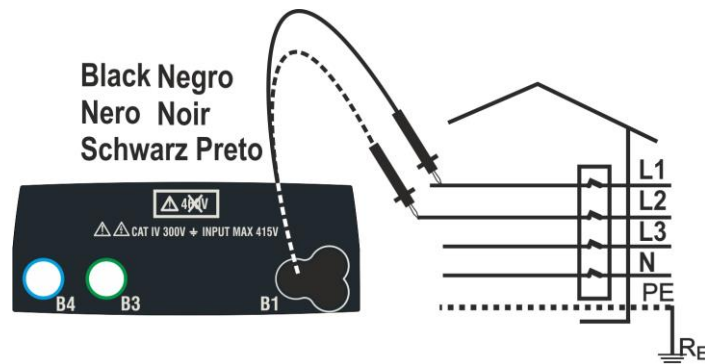
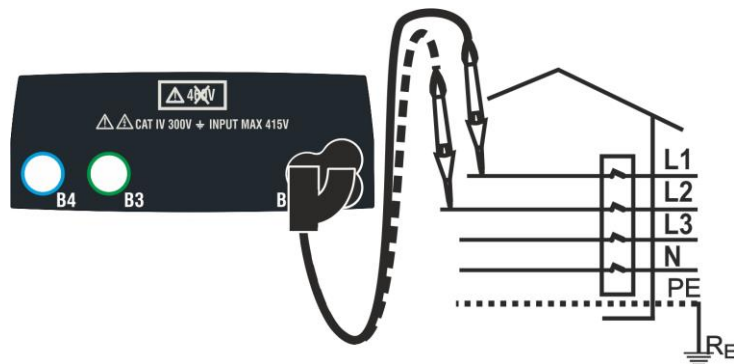

Fig. 35: Phase sequence check with test leads
Fig. 36: Phase sequence check with remote switch probe
2. Insert the black lead connector into the corresponding input B1 of the instrument. As an alternative, use the single cable and apply the relevant alligator clips to the free ends of the cables. It is also possible to use the remote switch probe by inserting its multipolar connector into the input B1. Connect the alligator clips or the remote switch probe to the electrical mains according to Fig. 35 or Fig. 36.
- Under these conditions, connect the alligator clips, the tips or the remote switch probe to phase L2 in accordance to Fig. 35 or Fig. 36.